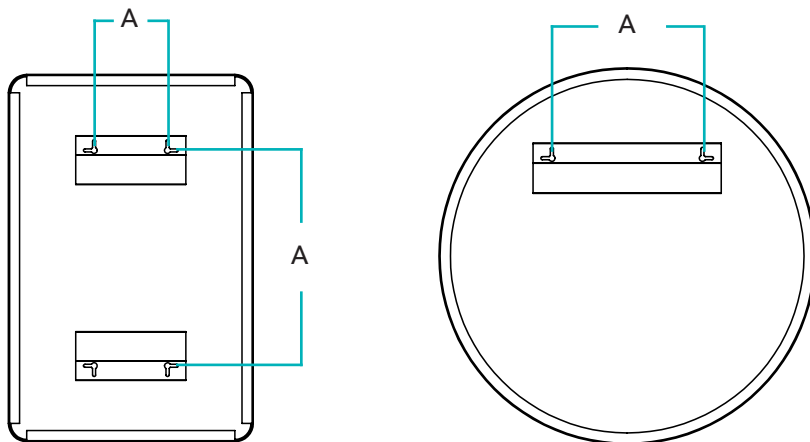

Fig 1. - Mounting points
2. Carefully mark the position of the mirror using a soft pencil ensuring it is level. Remove the mirror and mark the mounting points, *see Fig. 1 overleaf*. **Please ensure that all marked mounting points accurately match up with the fixing points on the mirror.**